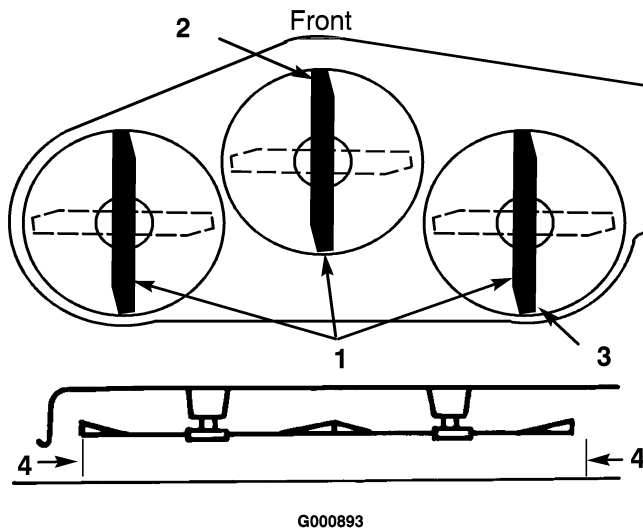

Figure 45
- Set the height-of-cut at 3 inch (76 mm) and carefully rotate the blades so they are facing front to rear (Figure 45).
- Measure between the tip of the front blade (Figure 45) and the tip of the rear blade to the flat surface. If the front blade tip is not 1/16-5/16 inch (1.6-7.9 mm) lower than the rear blade tip, adjust the front trunion rods.
- After adjusting both trunion rod yokes evenly, secure the yokes with the hairpin cotters. Check the front-to-rear level again. Continue adjusting the yokes until the front blade tip is 1/16-5/16 inch (1.6-7.9 mm) lower than the rear blade tip (Figure 45).